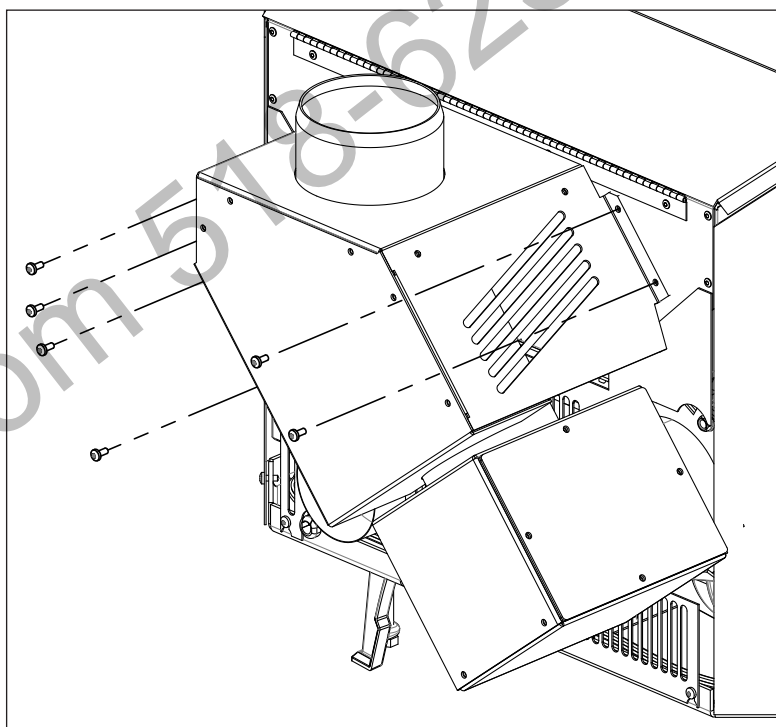

Figure 7: Top Vent Adapter Attachment
3. Attach the body of the adapter to the rear of the hopper using six (6) #8 Tek screws as shown in Figure 7.